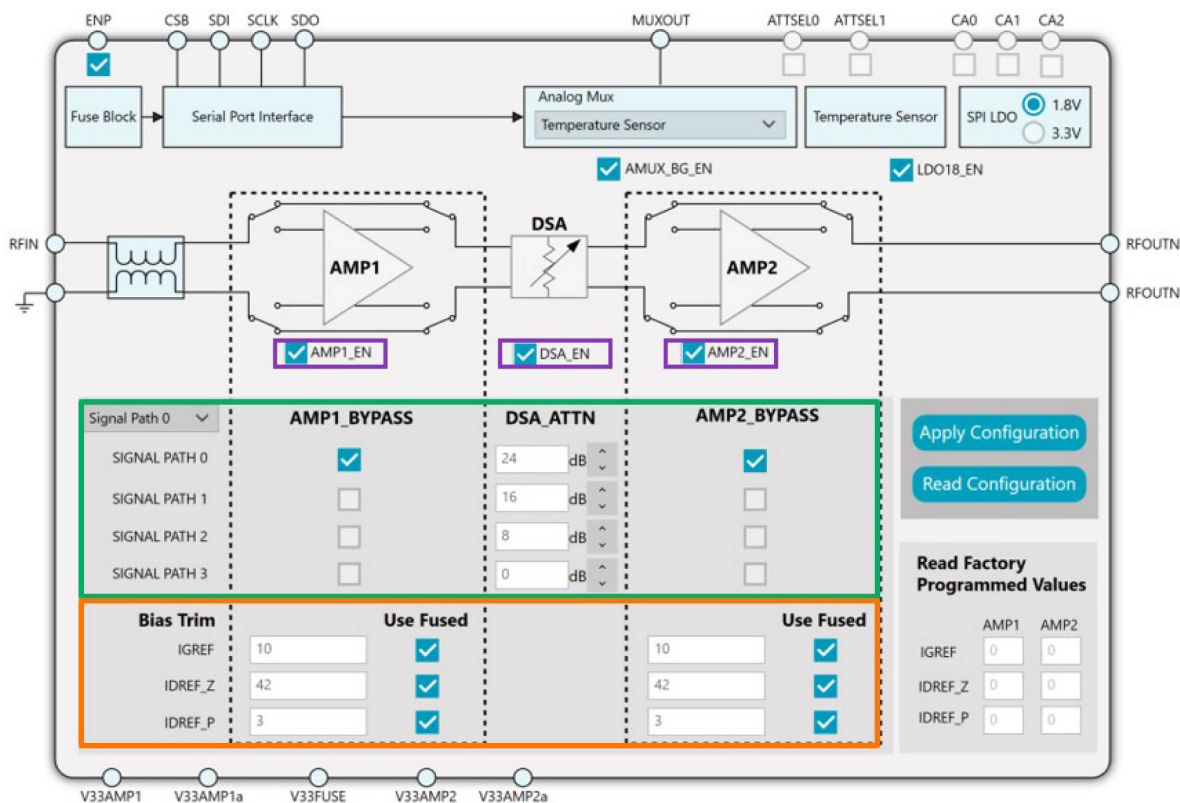

Figure 6. ADL6332 IC Level View (ENP Set to High)
5. Enable each block of AMP1, AMP2, and DSA. Configure the four RF preconfigurations by selecting the AMP1 and AMP2 bypass modes, as well as setting up the DSA attenuation levels. Use default settings for the bias trim with **Use Fused** boxes checked (see Figure 6).